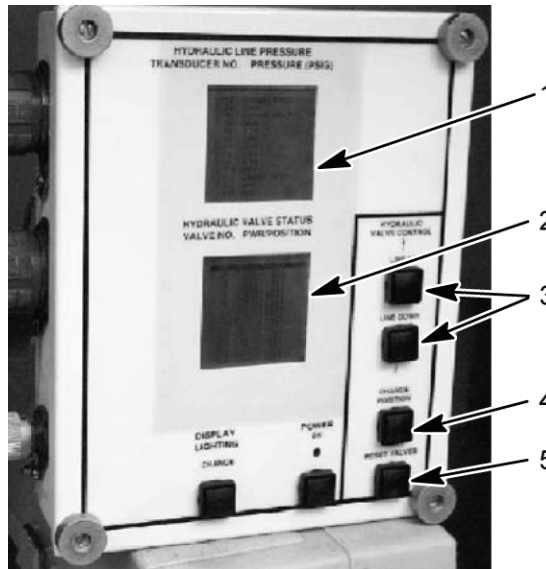

Figure 9. HDC Control Box
- Reset all HDC solenoid valves by selecting the RESET VALVES button (Figure 9, item 5) on the HDC control box.
- For left forward manifold pressure; Using LINE UP or LINE DOWN button (Figure 9, item 3), select V9 on the HDC display (Figure 9, item 2). Close V9 on the HDC display (Figure 9, item 2), by selecting the CHANGE POSITION button (Figure 9, item 4) on the HDC control box. Read transducer T-10 hydraulic pressure on the HDC display (Figure 9, item 1).
- For right forward manifold pressure; Using LINE UP or LINE DOWN button (Figure 9, item 3), select V10 on the HDC display (Figure 9, item 2). Close V10 on the HDC display (Figure 9, item 2), by selecting the CHANGE POSITION button (Figure 9, item 4) on the HDC control box. Read transducer T-11 hydraulic pressure on the HDC display (Figure 9, item 1).